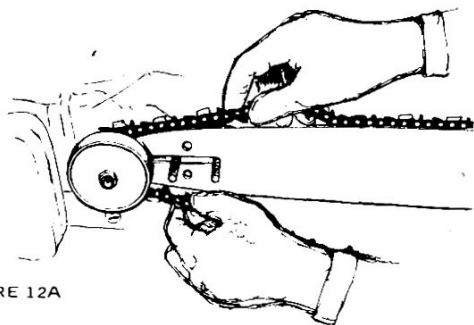

FIGURE 12A
2. Install the chain starting at the sprocket end. (See Figure 12A)